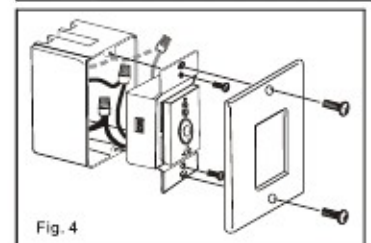

Fig. 4
**Step 2.** Make the electrical connections as shown in Fig.4. If your outlet box has a ground wire (Green or Bare Copper) connect the Wall Transmitter's ground wire to it. Otherwise connect the Wall Transmitter's wire directly to one of the screws from the outlet box. Secure all wire connections with the plastic wire nuts provided.